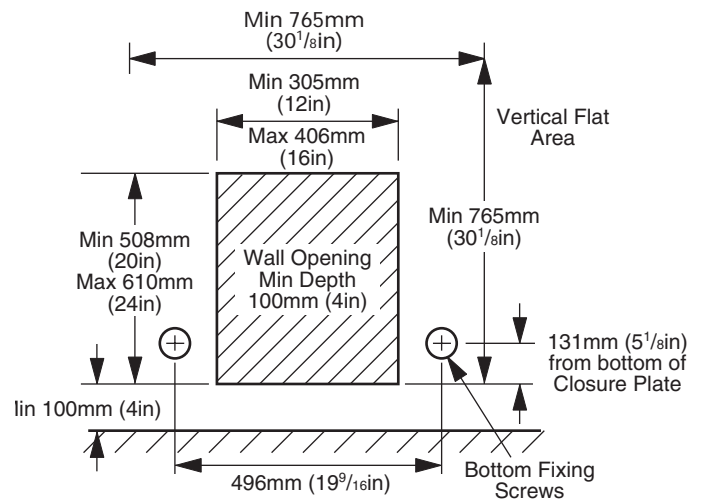

Fig. 4 Wall Fixing
(d) **Wall Fixing:** The fire may be fitted on to a suitable non-combustible wall so that the bottom of the rear legs is not less than 100mm (4in) above the finished floor level (Fig. 4).
- Mark the position of the bottom two fixing screws then drill and plug the wall (Fig. 4).